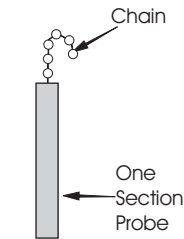

Figure 1
2. Insert the probe (See **Figure 1**) down into the 2" pipe nipple. Apply a good quality pipe thread sealant to the 2" pipe threads. Connect the probe to the transducer assembly. **For multi-section probes see instructions below.**